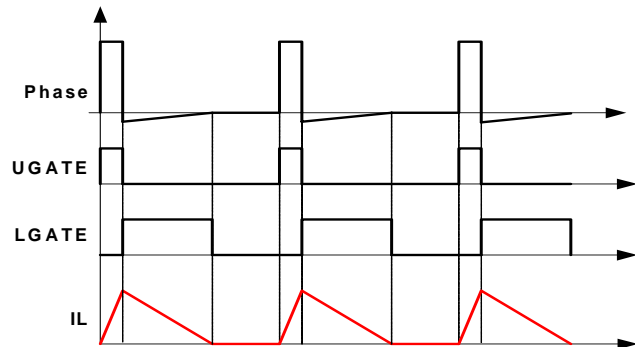

FIGURE 6. DIODE EMULATION
ISL95831 can operate in diode emulation (DE) mode to improve light load efficiency. In DE mode, the low-side MOSFET conducts when the current is flowing from source to drain and doesn't allow reverse current, emulating a diode. As Figure 6 shows, when LGATE is on, the low-side MOSFET carries current, creating negative voltage on the phase node due to the voltage drop across the ON-resistance. The controller monitors the current through monitoring the phase node voltage. It turns off LGATE when the phase node voltage reaches zero to prevent the inductor current from reversing the direction and creating unnecessary power loss.
If the load current is light enough, as Figure 6 shows, the inductor current will reach and stay at zero before the next phase node pulse and the regulator is in discontinuous conduction mode (DCM). If the load current is heavy enough, the inductor current